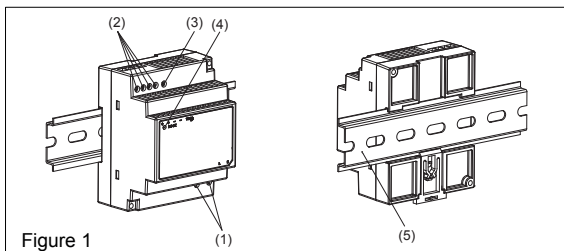

Figure 1
2. Device description (Fig. 1)
5.1. Input connection (Fig. 1 (1), Fig. 5)
Use L and N connections of input terminal connector (see Fig. 1 (1)) to establish the 100-240 VAC connection.
5.2. Output connection (Fig. 1 (2))
The output voltage can be adjusted from 11.5 to 14VDC on the potentiometer. The green LED DC OK displays correct function of the output (Fig. 1 (4)). The device has a short circuit and overload protection and an over voltage protection limited to < 17.4VDC